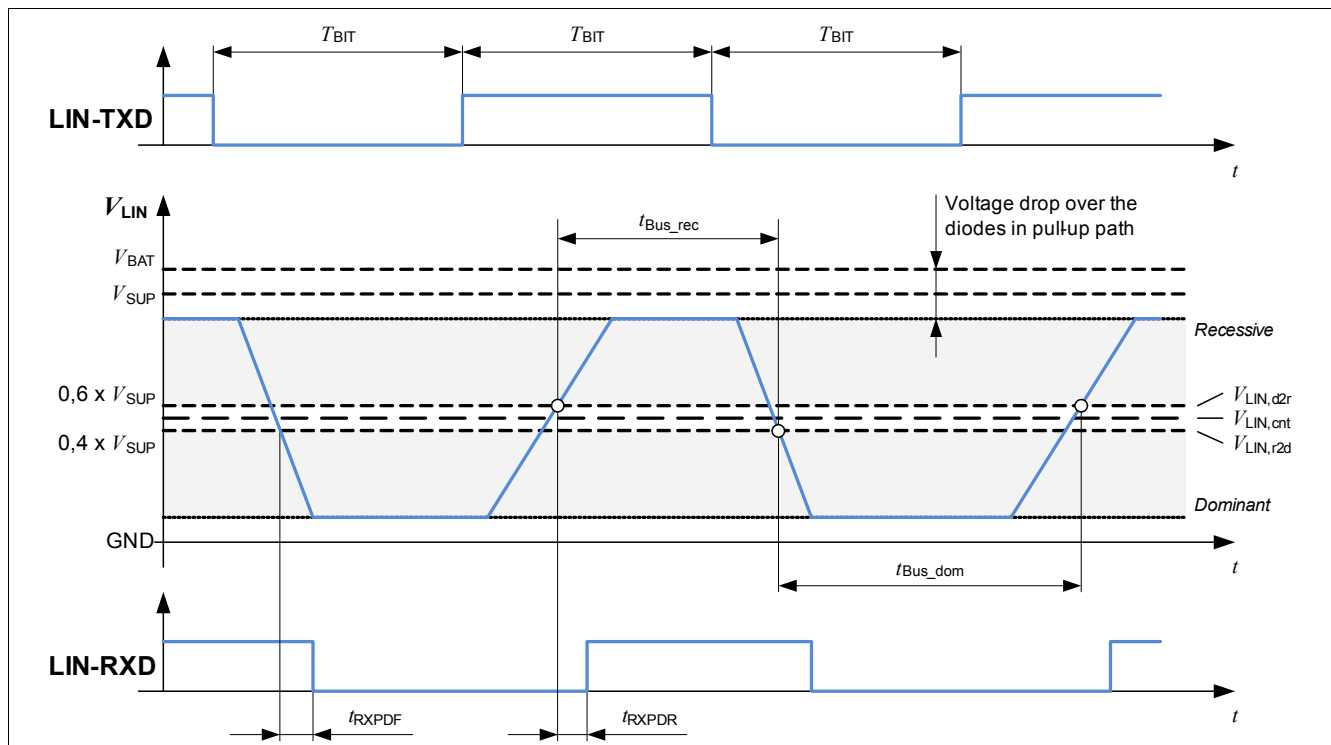

Figure 14 LIN signal specification
The transferred data bits are encoded with the value '0' (dominant level, bus line is clamped to GND) or '1' (recessive, bus voltage is near to V_{BA}). For a correct transmission of a bit the bus voltage must be on the respective voltage level (dominant or recessive) at the bit sampling time of the receiver. Propagation delays as well as slew rates according the LIN specification have to be considered (refer to Figure 14).
- 2) Bus loading conditions ($C_{LIN}; R_{LIN}$) = (1 nF; 1 kΩ), (6.8 nF; 660 Ω) and (10 nF; 500 Ω). For signal specification, refer to **Figure 14 “LIN signal specification” on Page 48**.